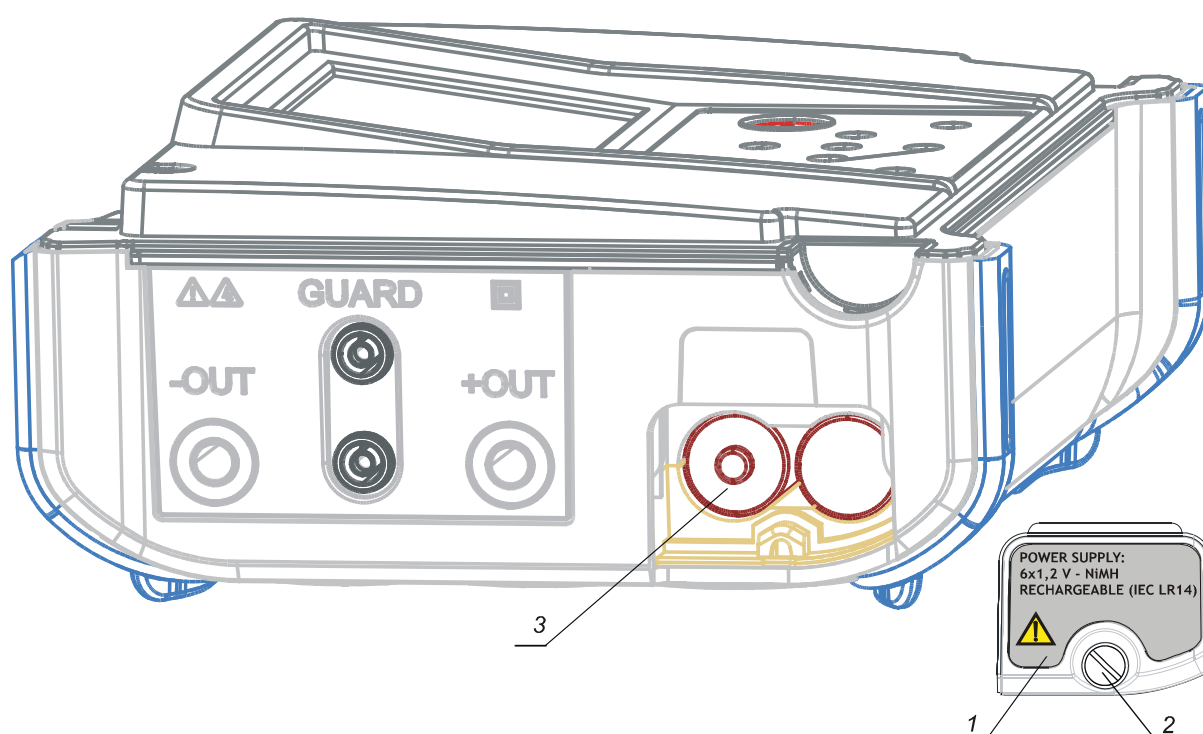

Fig. 32. Correct polarity of inserted batteries
Battery cells are stored in the bottom section of the instrument casing under the battery cover (see **Fig. 32**). When inserting batteries for the first time please note the following:
- ◆ **Insert the batteries correctly (see *Fig. 32*), otherwise the test instrument will not operate!**
Battery cells are stored in the bottom section of the instrument casing under the battery cover (see **Fig. 32**). In case the batteries become defective please note the following:
- ◆ Insert the batteries correctly (see *Fig. 32*), otherwise the test instrument will not operate and battery may be discharged!
Nominal power supply voltage is 7.2 V DC. Use six NiMH cells with C size (dimensions: diameter = 26 mm, height = 46 mm). See the next *Fig. 32* for correct polarity of the batteries.